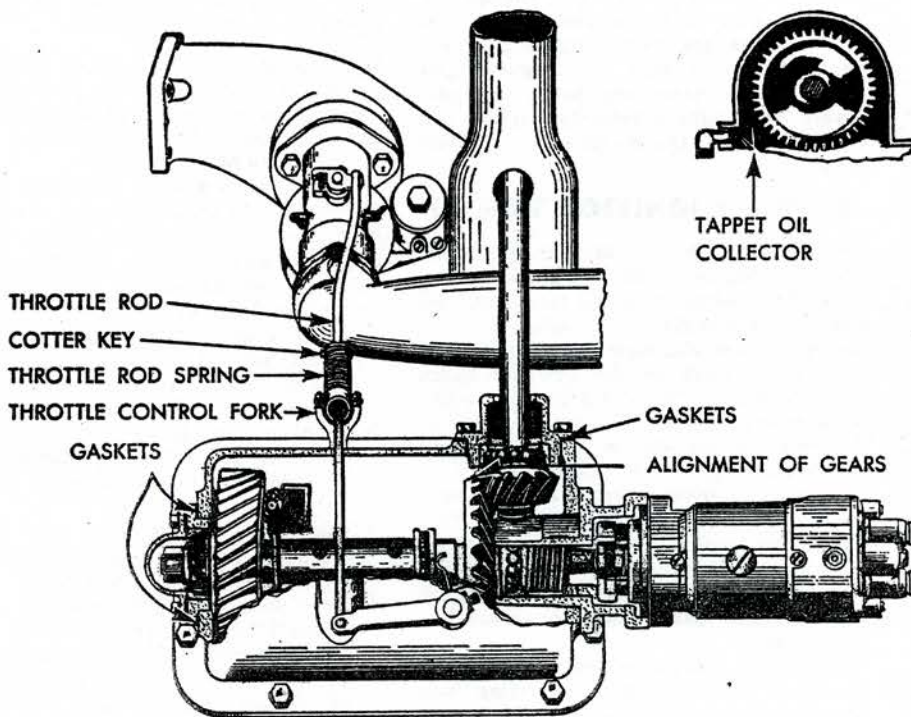

Fig. 22 Governor. Model D
**MODEL D**—If adjustment of the governor is found necessary after checking the engine speed with a speed indicator, remove the cotter key from the speed change spring sleeve, Fig. 22, and move the sleeve one hole toward the carburetor. This will increase engine speed approximately 30 to 50 revolutions. If the engine is running too fast, move the sleeve one hole away from the carburetor.